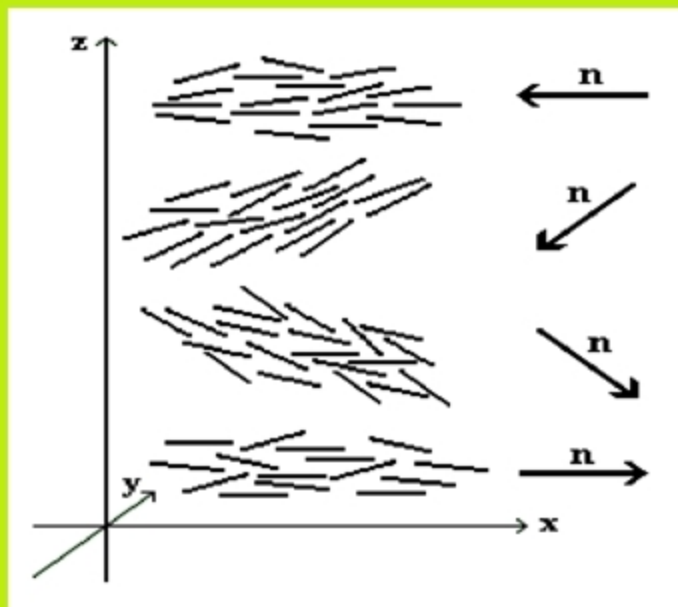

Figure 21 Schematic representation of cholesteric liquid crystalline phase
- 3、 A schematic representation of the structure of the cholesteric phase is illustrated in Figure 21.**